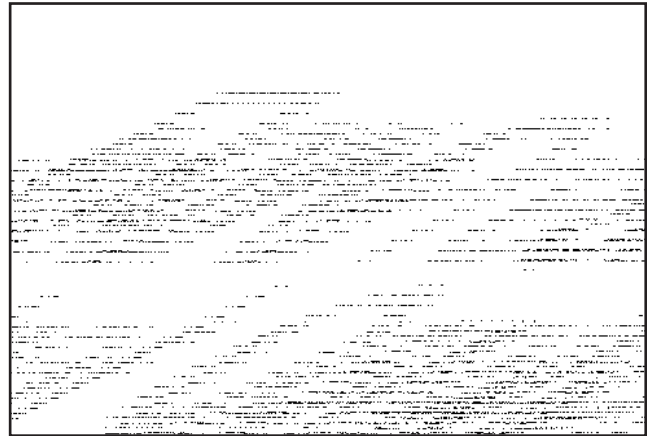

Figure 8. Piping Arrangement
- A. Packaged water boilers are equipped with a water circulating pump, mounted to return the water into the boiler. For some installations, the pump should be on the supply main. See figure 8.
- A. DIAPHRAGM-TYPE COMPRESSION TANKS are used to control system pressure in an AIR ELIMINATING SYSTEM: an automatic air vent is used to REMOVE air from the system water. See figure 8. If system pressure needs further control, add an additional tank or install a larger capacity tank. Locate the tank near the boiler, as illustrated. An automatic air vent should be installed in the top of the boiler or air purger. See figure 8.